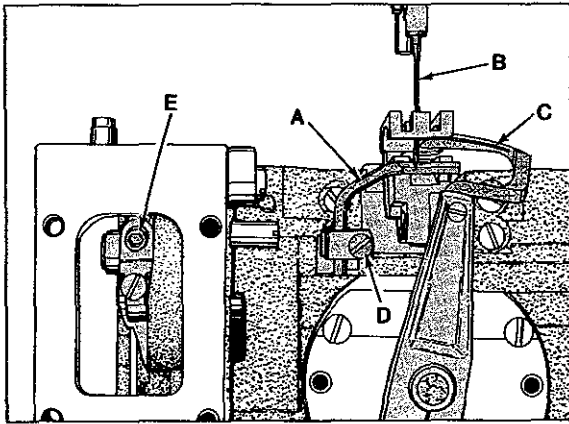

Fig. 17
At extreme forward end of travel, rear needle guard (A, Fig. 17) must be set horizontally not to contact needle (B) with a maximum clearance of .005 inch (.127mm). Guard should be set as low as possible, yet have its vertical face approach approximately 3/64 inch (1.2mm) of needle point until point of looper (C) moving to the left, is even with the right side of needle. Adjustment can be made by loosening screw (D), reposition needle guard as required and retighten screw.